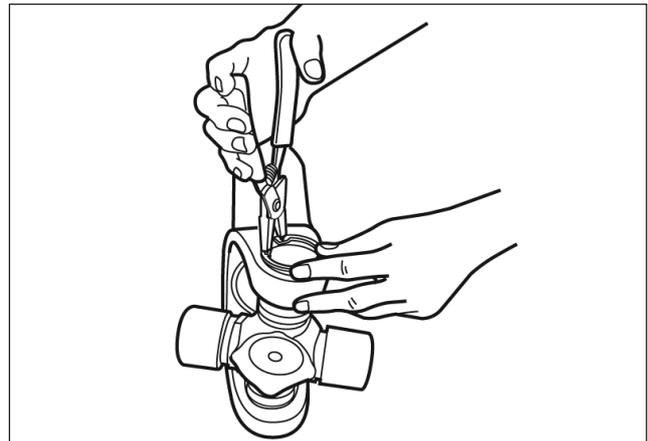

Fig. 4.17
3. Use snap ring pliers to install the snap ring into the snap ring groove. You must fully seat the snap ring into the snap ring groove to avoid damage to the driveline. Fig. 4.17